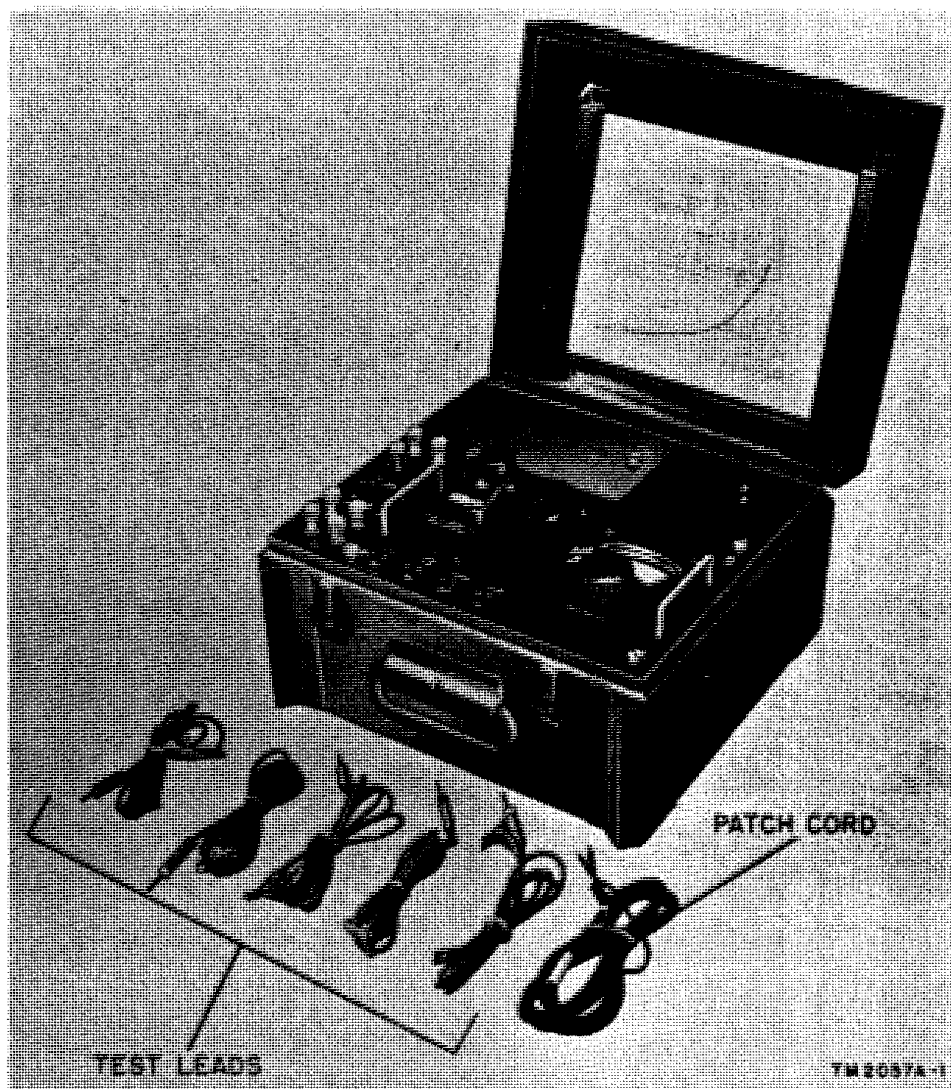

Figure 1. Test Set TS-27B/TSM.
a. Test Set TS-27B/TSM (fig. 1) comprises a single self-contained unit which is supplied complete with five leads for making rapid connections to wire communication lines and a cord for use when it is more convenient to plug into a switchboard than to connect directly to the line being tested. Two spare vacuum tubes also are furnished with the unit.
c. Test Set TS-27B/TSM is a form of Wheatstone bridge powered by dc (direct current) obtained from dry-cell batteries. It is used for measuring conductor and insulation resistance and for locating grounds, crosses, and shorts. When the test set is used for measuring capacitance and to locate opens, 20-cycle ac (alternating current) is supplied by a vacuum-tube oscillator. Two 45 volt Batteries BA-59 or BA-63 in series are used to energize the bridge when making d-c measurements. The vacuum tubes, which are used only for a-c measurements, receive plate power from the same two batteries mentioned above that are used for d-c measurements. Filament power is supplied either by a single 1-1/2-volt Battery BA-15-A or by two 1-1/2-volt flash-light type Batteries BA-30 connected in parallel. Grid bias is supplied by a 4-1/2-volt Battery BA-31. An adapter is provided for Batteries BA-30 so that they can be substituted readily for Battery BA-15-A. Two pairs of binding posts, T and R of PR-1 and T and R of PR-2, provide a means of connecting two pairs of wires to the test set simultaneously. Binding posts TEL are provided for connecting a telephone into the line circuits under test. A ground binding post is provided also. Two cam lever switches permit switching either pair of line test binding posts to the test circuit or to the telephone. These two switches are designated PR-1 TEST--TALK and PR-2 TEST --TALK. Four push switches are used. Three of these switches (OHMS, OHMS X100, and MEGOHMS) are used in connection with d-c measurements. The fourth switch, designated OPENS, is used only for a-c measurements. A view of the test set with the cover raised is shown in figure 1.